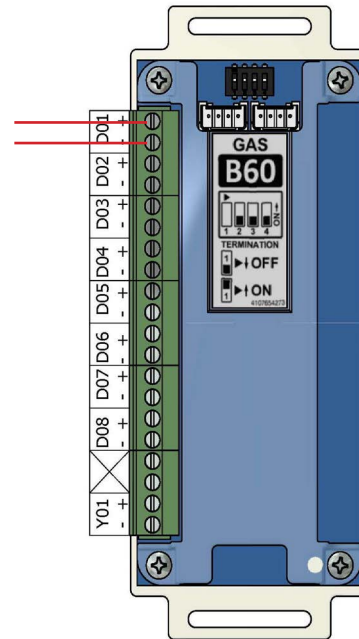

Figure 2.6: B60 Board Wire Routing
1. Identify each pair of twisted gas sensor wires inside the alarm backbox (Figure 2.6).
3. Route each group of wires as shown in Figure 2.6 to the appropriate terminals on input board. Refer to HTM Central / Combination Wiring Diagrams (Section 3.1 / 3.3)